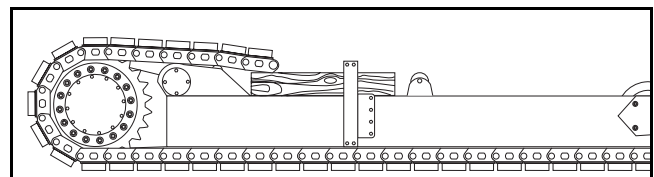

Figure 6 - 57 Rotate sprocket to install track
- 6) Use a come-a-long or hoist to lift and draw the track ends together. (Figure 6 - 58)